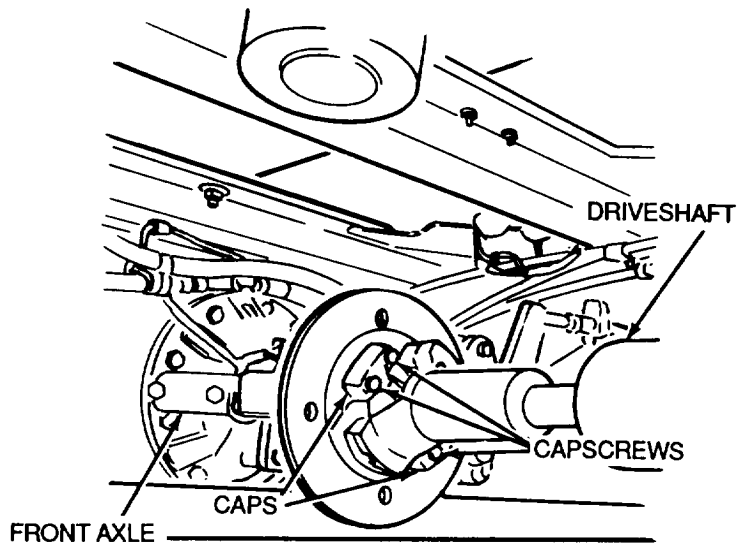

Figure 4-59. Driveshaft
3. Disconnect the drive shaft by removing four capscrews and two caps (Figure 4-59). The driveshaft must be disconnected from the front axle and secured to a frame crossmember to prevent it from contacting the rotating axle input yoke or the ground while the vehicle is being towed. The spider bearing caps must be taped or wired together to prevent them from falling off and being lost.